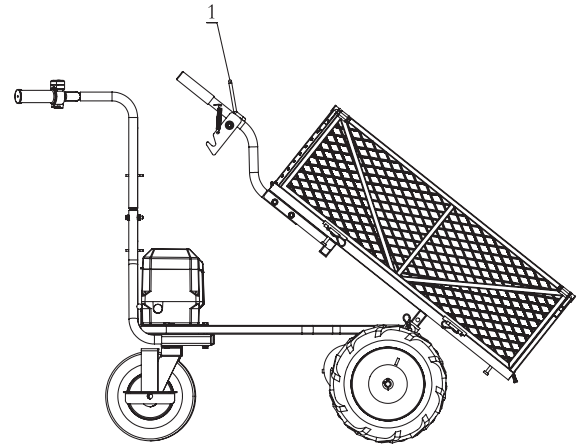

Figure 12
4. Release the lock lever (1) out from the dumping handle holder, push the dumping handle to lift the cart for dumping. (See Figure 12)